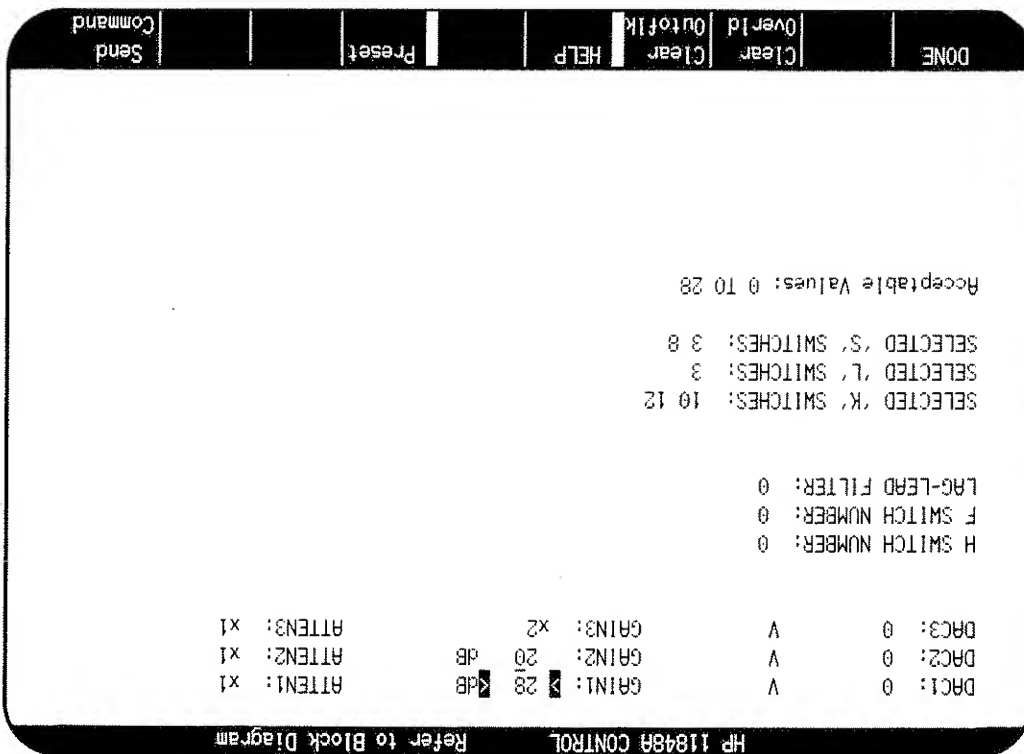

Figure 3-4. HP 11848A Control Display for FM Test
- d. Use the cursor control keys to move the cursor to the "SELECTED 'K' SWITCHES:" line then key in 10 and 12. (Refer to figure 3-4.)
- f. Press the **Send Command** softkey to initiate the commands. The display should appear as in figure 3-4 except for the cursor position, the values following "GAIN1:" and "GAIN2:" (which will be entered later), and the bottom line.
7. Fine tune the Signal Generator's carrier frequency until the front-panel meter of the system's interface reads approximately 0. This establishes quadrature in the interface's phase detector to make it function as a linear phase detector. (The display should now appear as in figure 3-4.)